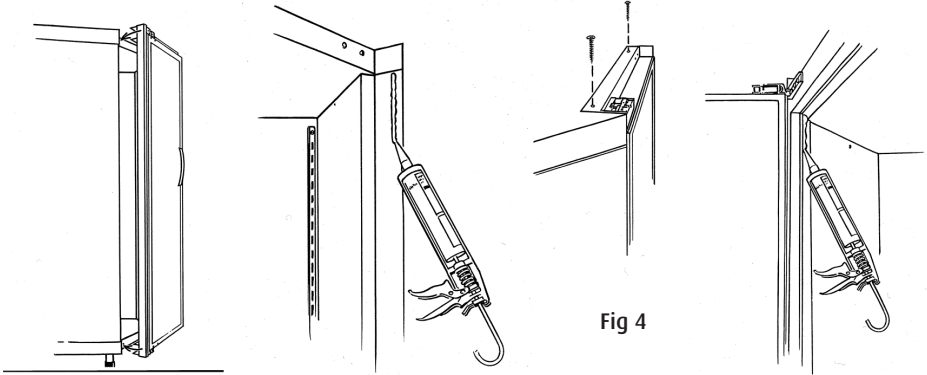

Fig 4
5. Select the hinge side on the door by rotating the door frame with the door. Trial fit the door with the frame in the opening to ensure a good fit. Take it out again and apply a thick bead of sealant (cartridge supplied) in the opening approx 1 cm from the edge, continuing around the entire door opening. Position the door frame with the door, and screw the door frame securely to the ceiling on the top side. Apply sealant around the entire frame from the inside so that an airtight joint is made (Fig 4)